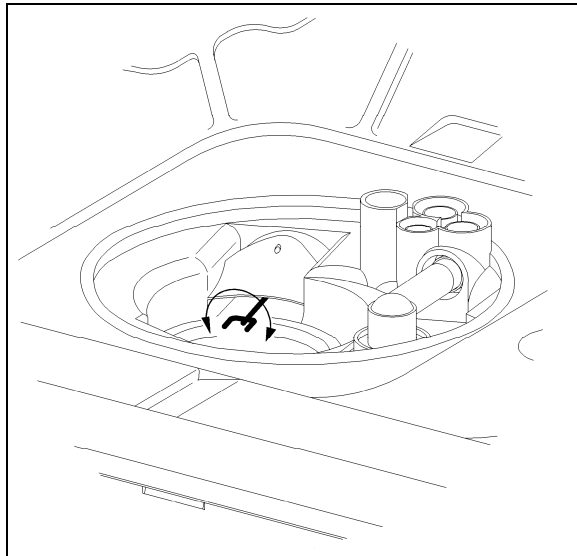

Figure 5-31: Turning the Circulation Pump Tool
5. Carefully turn the releasing tool back and forth about its axis to release the pump impeller. See Figure 5-31.